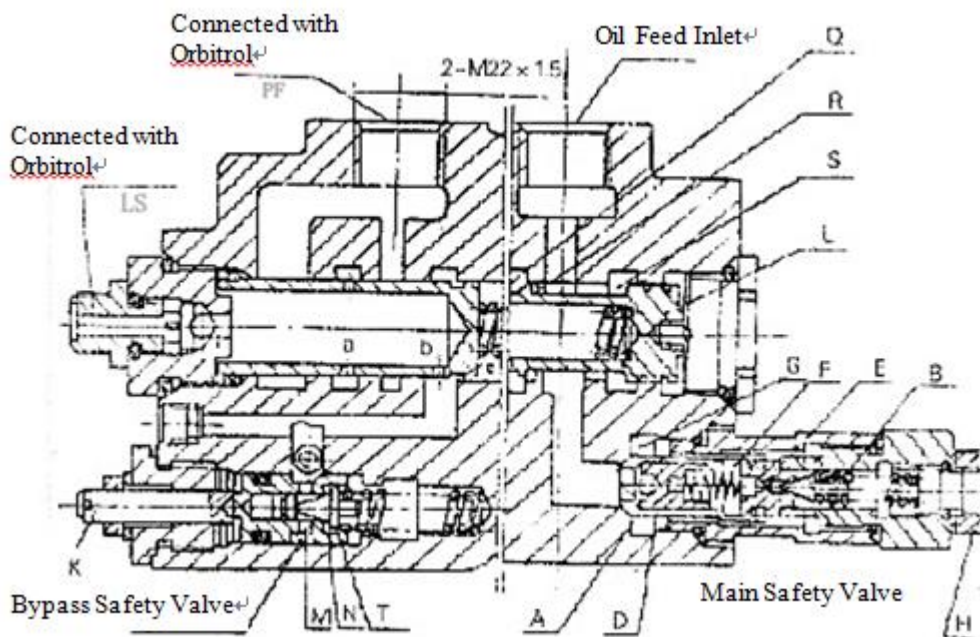

Fig 6-5
6.3.2 Main Safety Overflow Valve and Bypass Safety Valve (Fig 6-5)